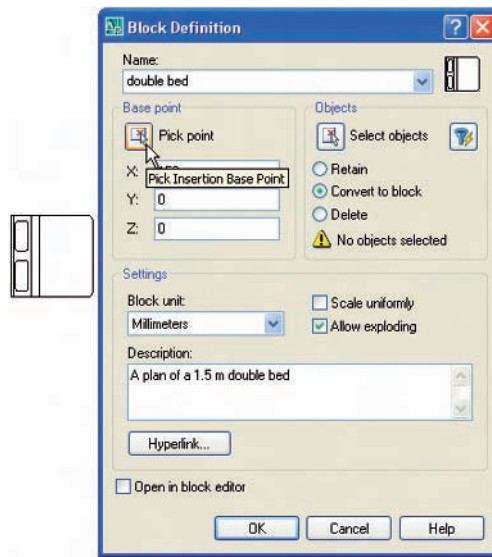

Fig. 9.3 The **Block Definition** dialog with entries for the **double bed**
First example – Blocks (Fig. 9.3)
2. *Left-click* the **Make Block** tool (Fig. 9.2). The **Block Definition** dialog (Fig. 9.3) appears. To make a block from the **Double bed** symbol drawing: